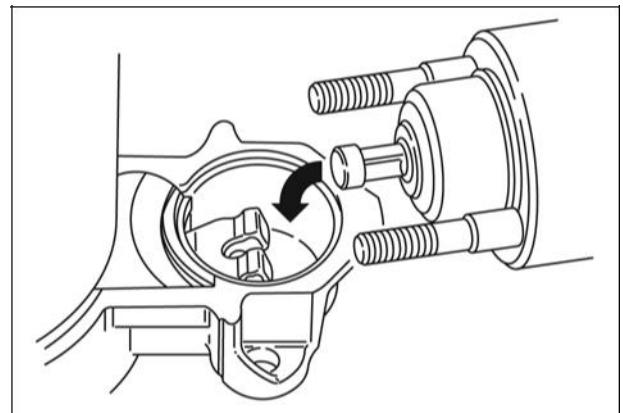

Figure 50
5. Separate split retainer using small screw driver and remove upper retainer (A, Figure 50).
6. Use a 14 mm deep socket and drive lower retainer from snap ring (B).